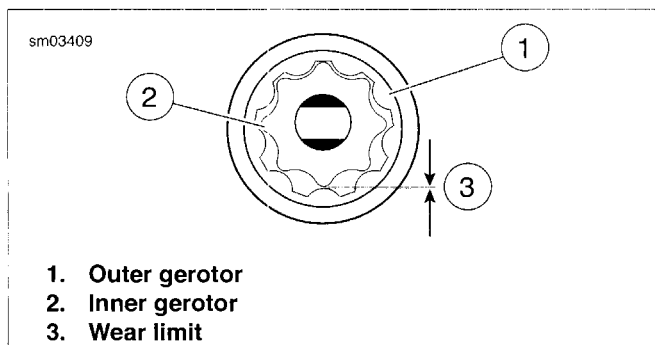

Figure 3-172. Gerotor Wear Limits
2. See Figure 3-172. Inspect both gerotor sets for wear.